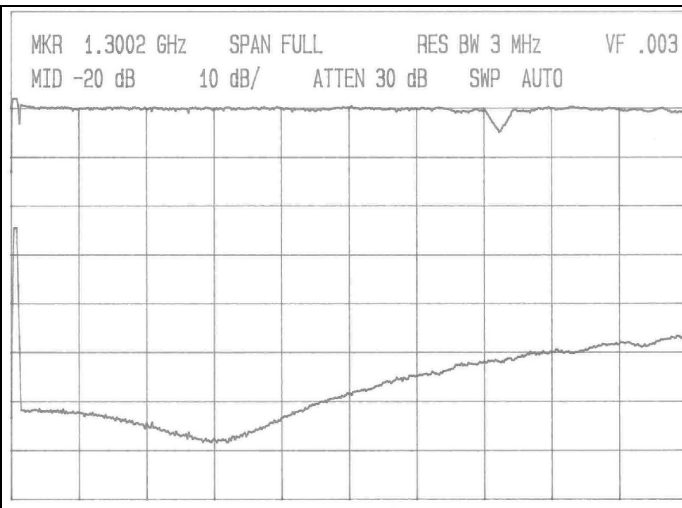

Fig 5: Plot of the return loss bridge performance.
- Directivity at higher frequency see Fig 5